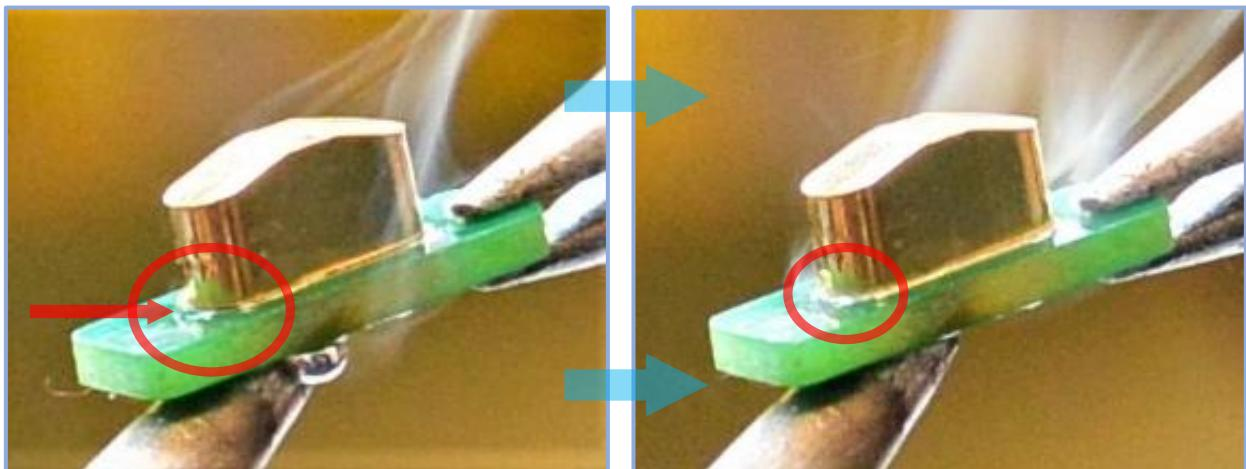

Figure 49 - Power Contact, Solder Correction Strategy
amount of dead space between the beam and the center – the choice is typically to eliminate all or most of the dead space so that the bulk of the beam is directly against the center line. And (B), in this example and often the case, moving the L1 beam further left would have moved a significant portion of the L2 beam across the center line. Note how in Figure 49 the 'sides' of the L2 beam visible in the monitor are not as clean as the sides of the L1 beam in Figure 51.